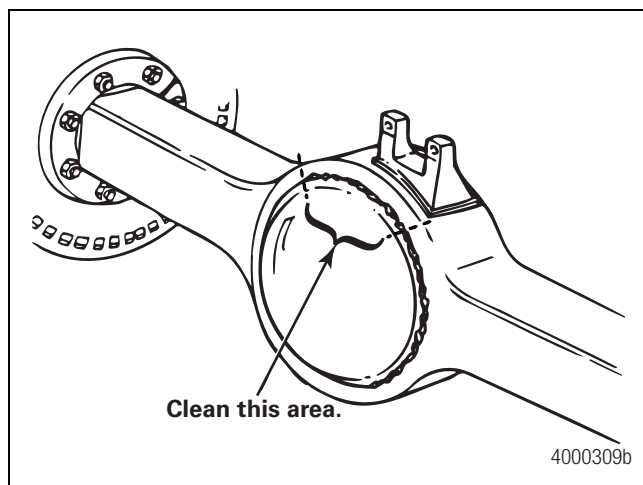

Figure 3.1
4. For housing-to-cover welds, clean the outside housing-to-cover weld area two to three-inches (50.8-76.2 mm) past each end or side of the crack. Clean the inside area where the cover mates with the housing. Clean the area completely around the cover. Use a wire brush and a cleaning solvent that will remove dirt and grease from these areas. Figure 3.1.